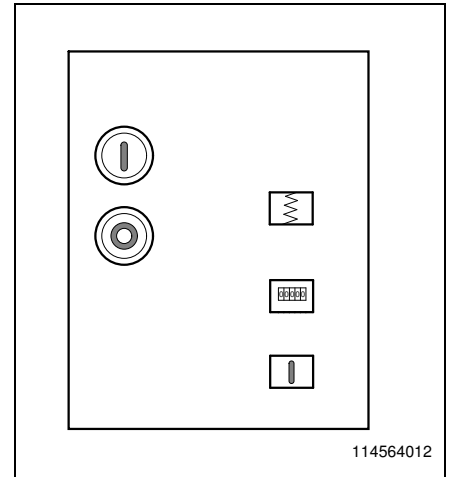

Fig. 18
- The circuit-breaker switches ON. The position indicator shows "I". The closing spring is now relieved and the closing spring accumulator indicator shows the relieved spring (Fig. 18).